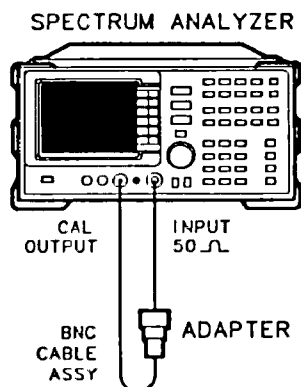

Figure 3-4. Resolution BW Switching and IF Alignment Uncertainty Test Setup
1. Connect the HP 8562A/B CAL OUTPUT to the INPUT 50 Ω as shown in Figure 3-4.